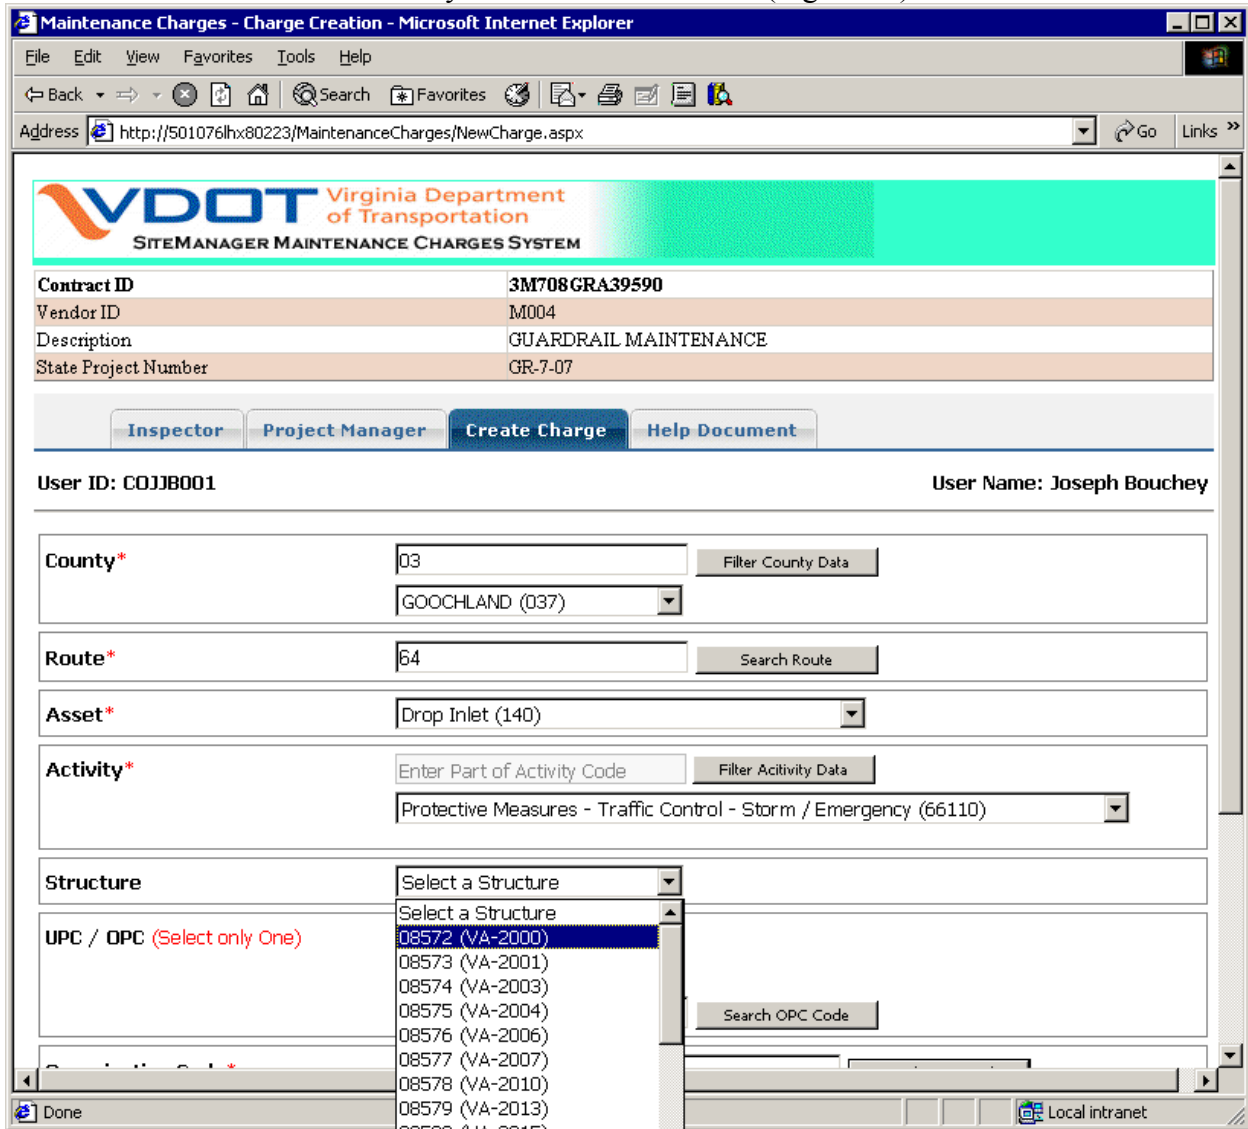

Figure 25
Step 6: If applicable, Select Structure from the Structure Dropdown. Only the structures associated with the selected County and Route will shown. (Figure 25)